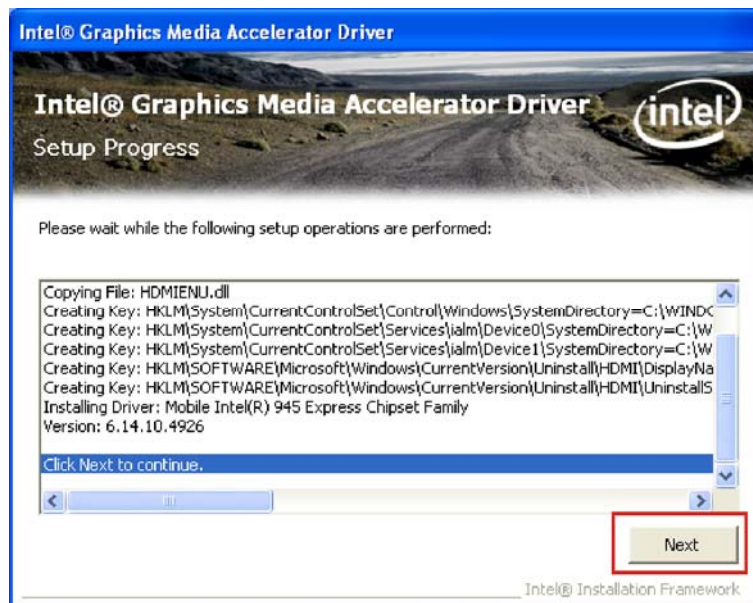

Figure 6-14: VGA Driver Setup Operations
Step 13: **Setup Operations** are performed as shown in **Figure 6-14**.